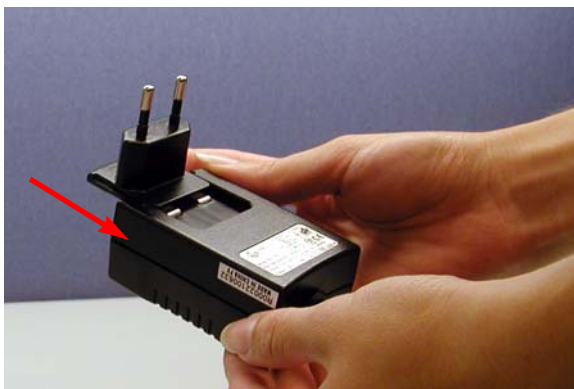

Figure 4. Inserting a New Plug Configuration
4. Push the new plug configuration down until it snaps into place (Figure 4).